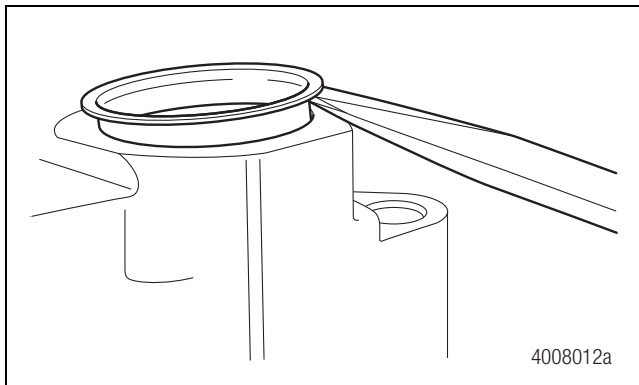

Figure 5.30
1. Remove the slide pin boot retainer from the bushing bore. Figure 5.30.